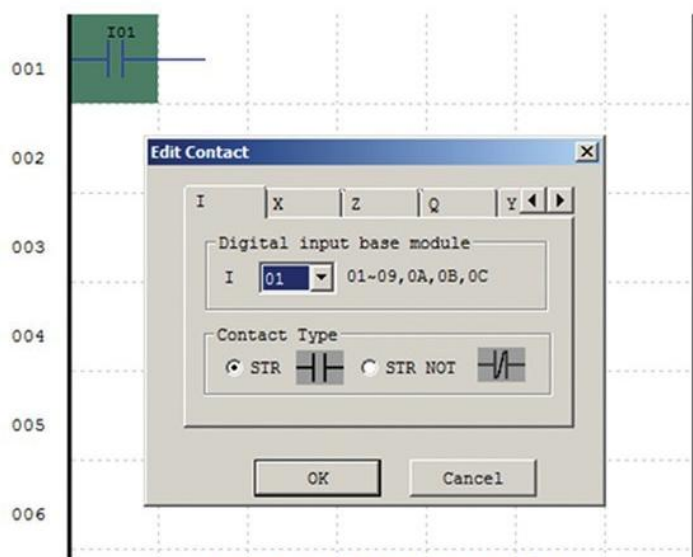

FIGURE 1. Ladder logic tool bar.
The original wiring diagram was done quickly on a scrap of paper, but Figure 1 is a neater version made with CAD. It also includes base diagrams of the jacks and switch, but confirm that yours will match before wiring.
■ FIGURE 1. Schematic.
Programmable relays use a visual language based on relay logic. Virtual devices are selected from a toolbar, configured from a drop down menu, and positioned on a ladder diagram between the power rails to achieve the required functionality (Figure 1).